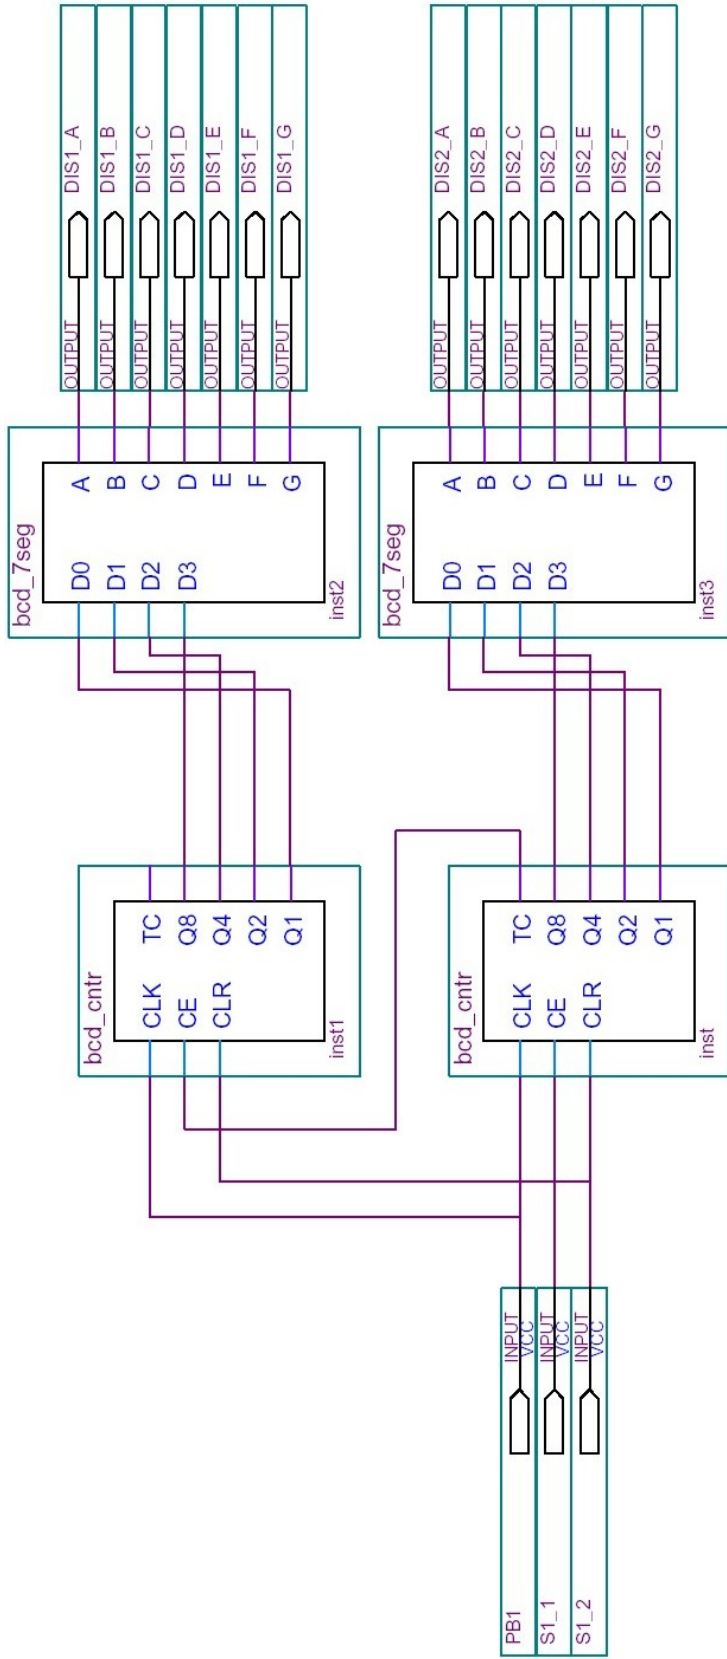

Figure 3 In-Lab Test Set-up
- 2) You will need to edit this sheet to use the input/output connections shown in Figure 3 on the following pages. Be sure that you use the proper input/output net names.